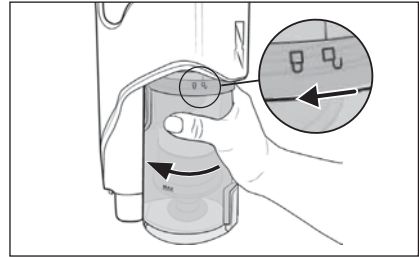

Fig. 17
- 2) To remove the dust container **6** from the appliance, turn it towards the symbol  (open) until it can be detached from the appliance (see Fig. 17).